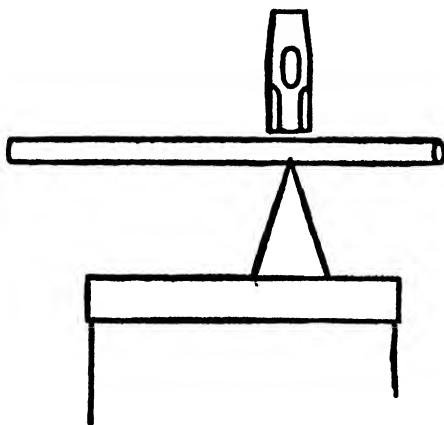

FIG. 13
5. Cut wrought-iron and soft steel under  $\frac{3}{8}$ " in diameter by placing it on the hardy and striking with the hammer directly over the cutting edge. When the cut is two-thirds thru, bend back and forth until it breaks off. If the cut is to be finished on the hardy, strike on the far side of the cutting edge when it is nearly finished. Fig. 13.